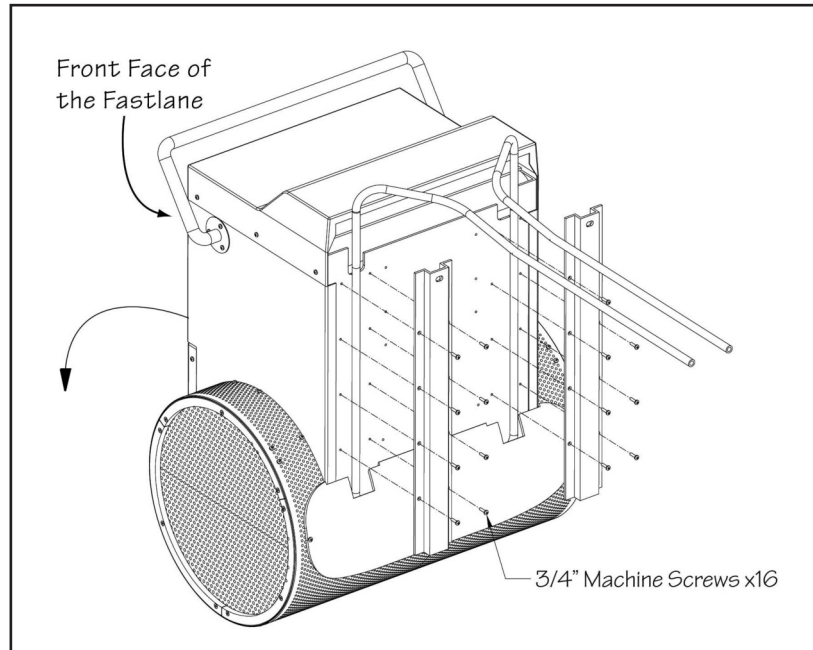

Fig. 6.5
- 6.7 Carefully lay the Fastlane onto its front face. Run the hydraulic hoses up the back of the upper housing. The two hat channels will be placed over the hydraulic hoses. Make sure that the mounting hole in the end of the hat channel is facing up and that the bottom of the hat channel has been inserted into the notch in the cylindrical base. Use the provided 3/4" machine screws to attach the hat channels to the upper housing. There will be eight screws per hat channel (Fig 6.5).